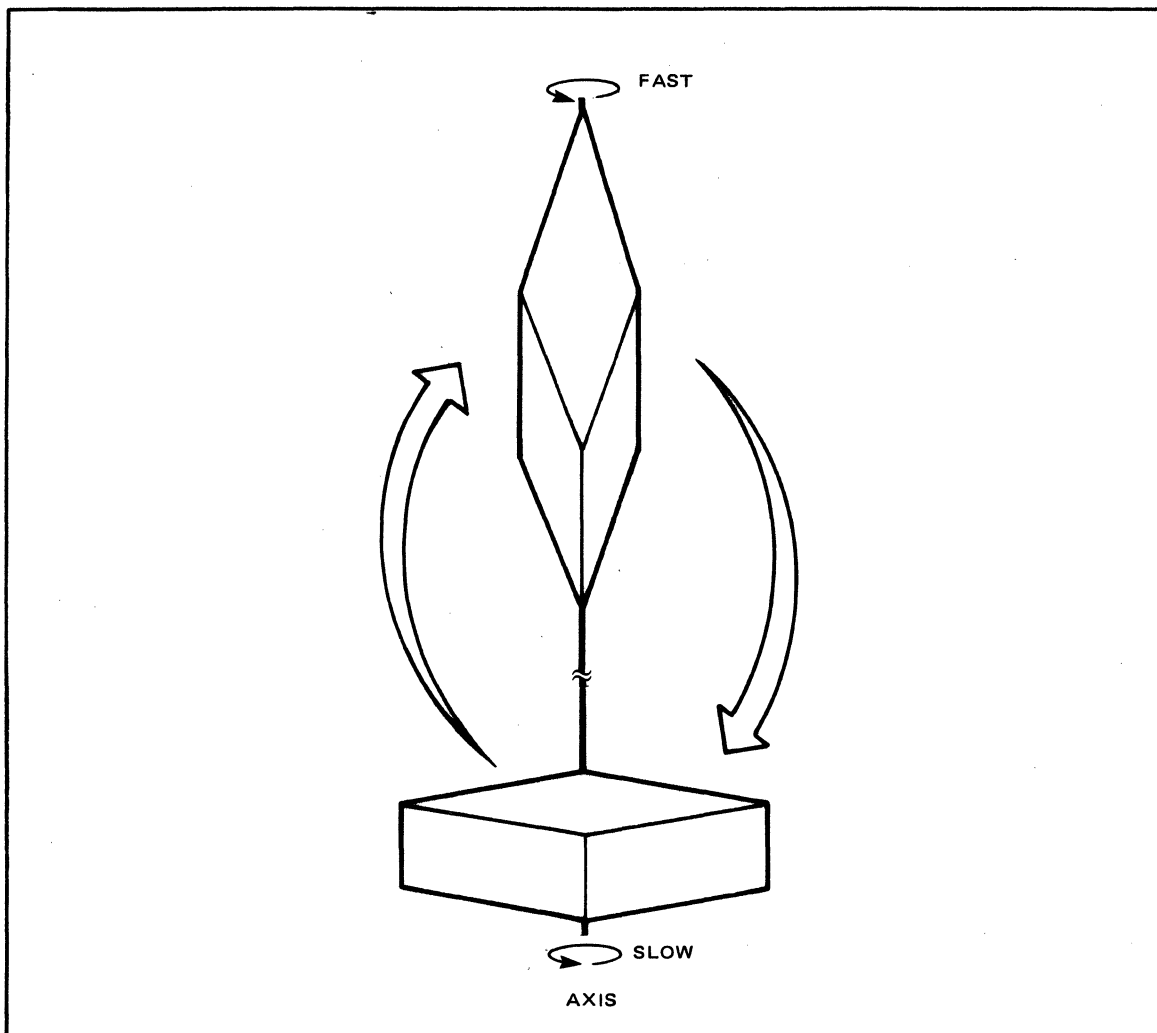

Figure A-8. Ice Skater
- The principle of conservation of angular momentum can be implemented using transitions between two solids. See Figure A-8. This has the same visual effect as an ice-skater; i.e., when skater's arms are pulled in, rotational speed increases.